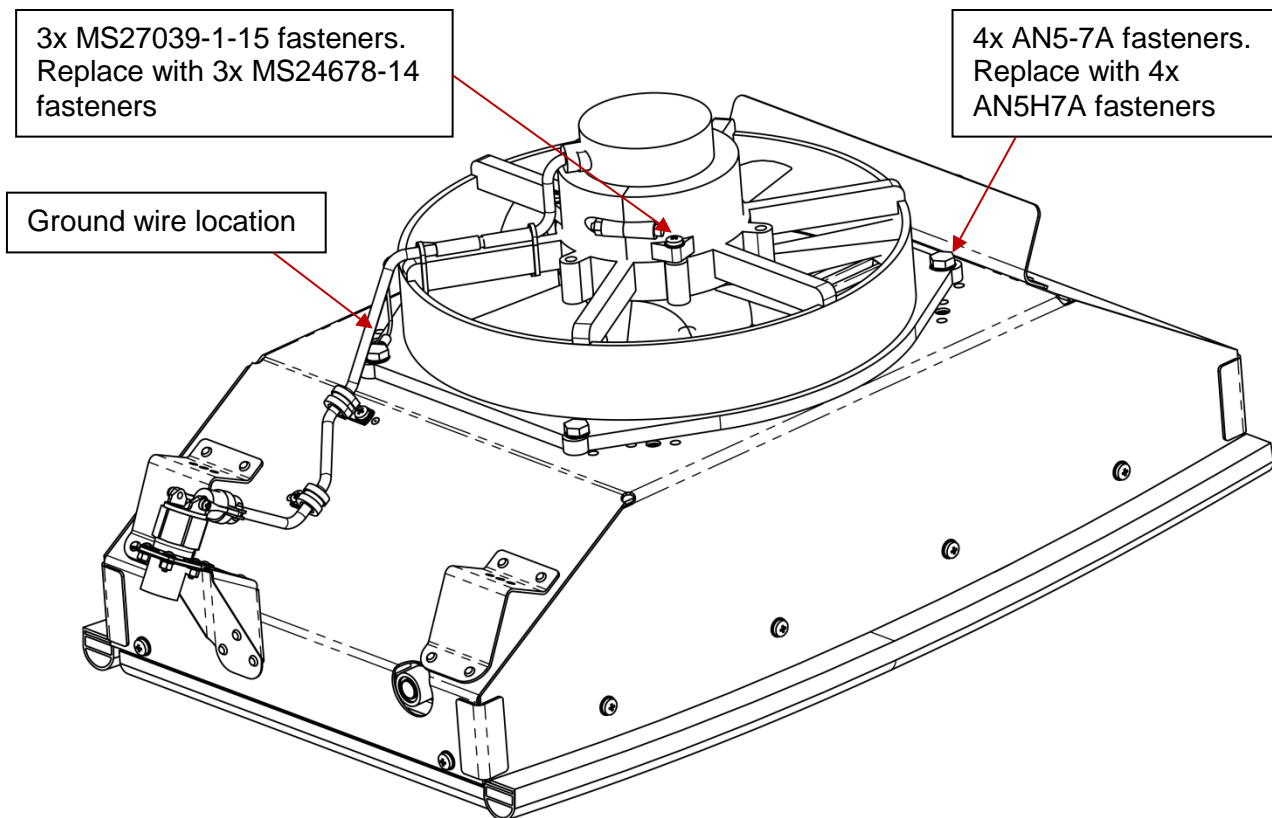

Figure 1
2. Remove the 3x MS27039-1-15 fasteners. Apply Loctite 222 to 3x MS24678-14 fasteners and install in cover fastener holes. Torque fasteners to 20-25 in-lbs. See Figure 1 for location of MS27039-1-15 fasteners.
4. Remove 4x AN5-7A fasteners. See Figure 1 for location of AN5-7A fasteners.
5. Install 4x AN5H7A fasteners. Re-use existing washers. Re-install ground wire as shown in Figure 1. Tighten fasteners to snug plus ¼ turn.